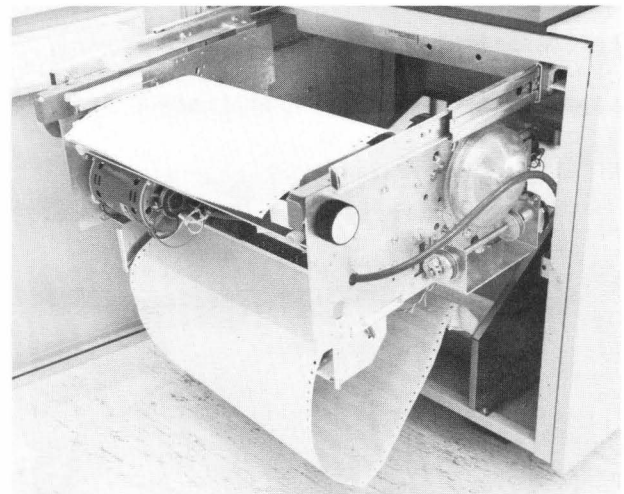

Figure 24. Paper Correctly Fed through Unit.
5. Lift the leading edge of the journal paper out of the hopper and lay it across the feed plate. Depress the feed plate and push the paper straight into the unit; the paper will be fed through the printing area and will appear at the top of the unit. See Figure 24.